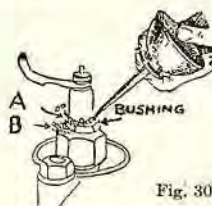

Fig. 30
To test for a spark-plug leak around the porcelain at the top (A) of bushing or below (B) where the bushing is screwed into the shell of plug (Fig. 30): squirt gasoline at these points, while the engine is running and note if bubbles appear. If so, there is a leak, and if tightening of the bushing does not remedy the trouble, then put in a new gasket.